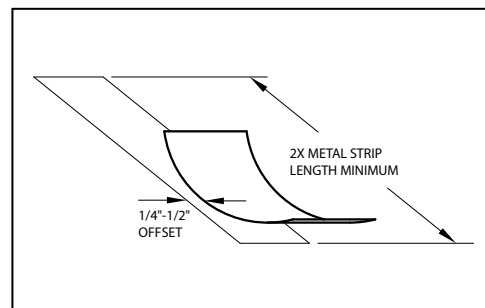

Figure 1
1. Apply a strip of masking tape, duct tape, or other durable tape to a thin metal strip, offset with 1/4"-1/2" of tape exposed along the edge of the metal strip. For best results, apply tape to metal strip at a slight angle to the edge so that tape will overlap previous tape layer edge. (See Figure 1)
5. Apply a strip of masking tape, duct tape, or other durable tape to a thin metal strip, offset with 1/4"-1/2" of tape exposed along the edge of the metal strip. (See Figure 1)
1. Apply a strip of masking tape, duct tape, or other durable tape to a thin metal strip, offset with 1/4"-1/2" of tape exposed along the edge of the metal strip. (See Figure 1)